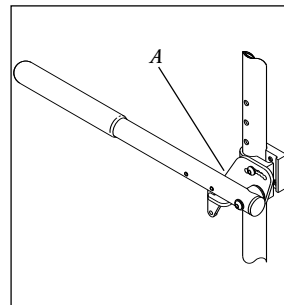

Figure 4
D. ADJUSTABLE-LOCKING FLIP-UP ARMRESTS (FIG. 4) (OPTIONAL WITH DEPTH-ADJUSTABLE BACK ONLY)
- Set armrest at desired angle using preset holes in armrest angle plate (A).